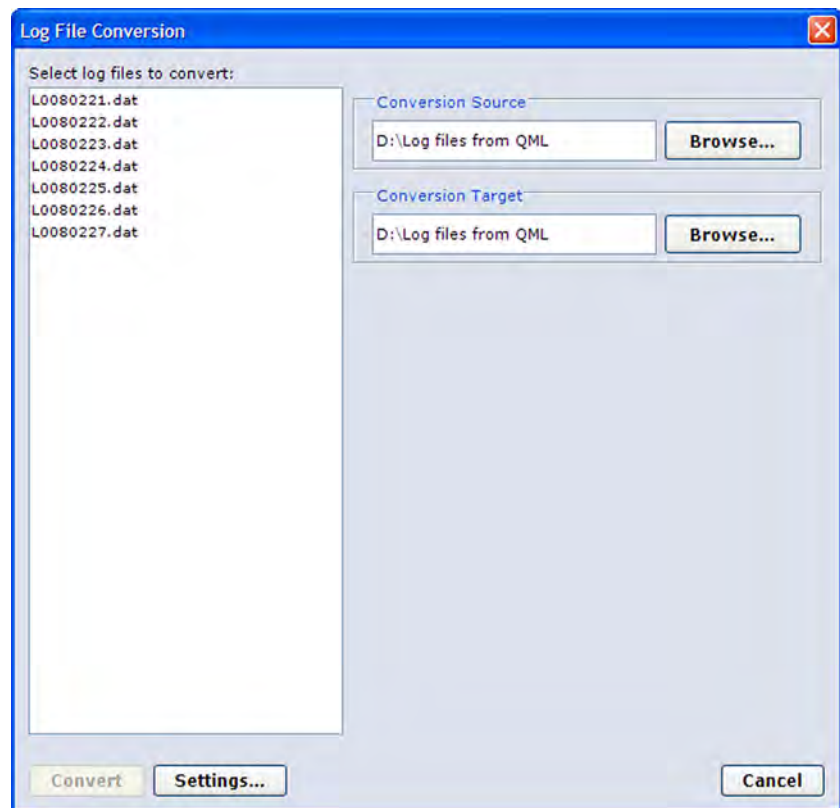

Figure 51 List of Log Files Available for Conversion
1. On the **Maintenance** menu, select **Log File** and then **Convert**. The list of log files downloaded to AWS Client is displayed as shown in Figure 51 on page 95.